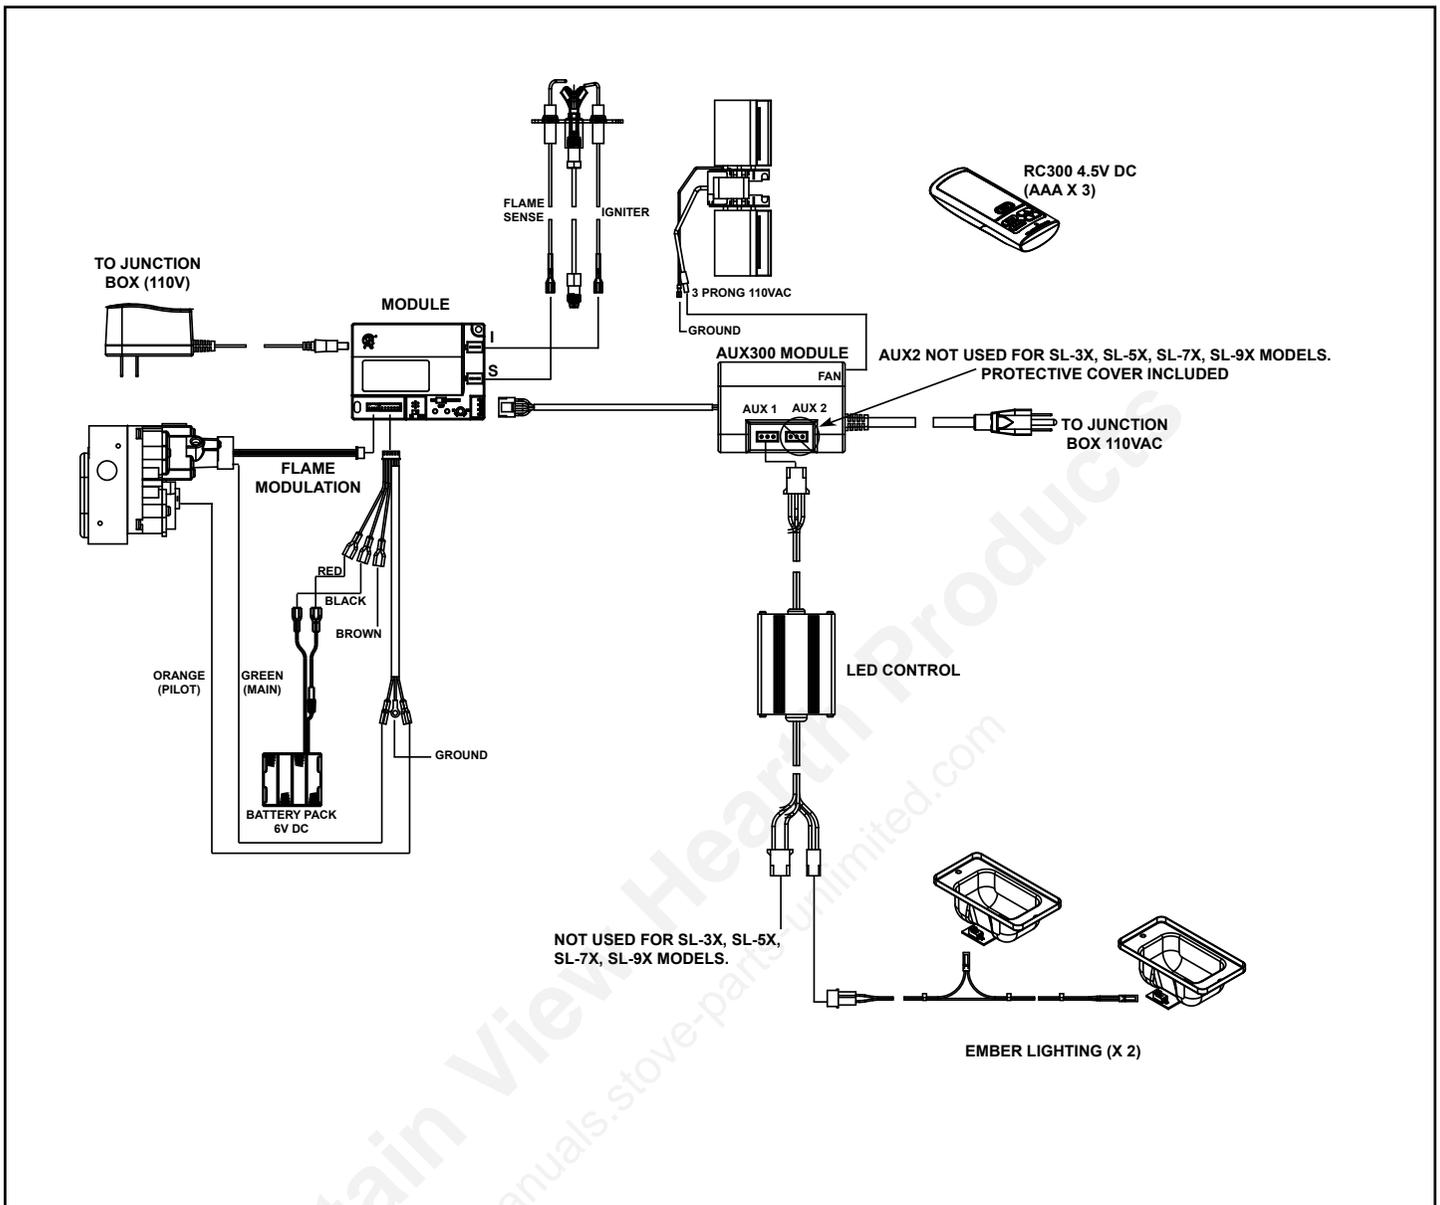

Figure 8.2 IntelliFire Plus™ Wiring Diagram
- Refer to Figure 8.2, IPI Wiring Diagram.